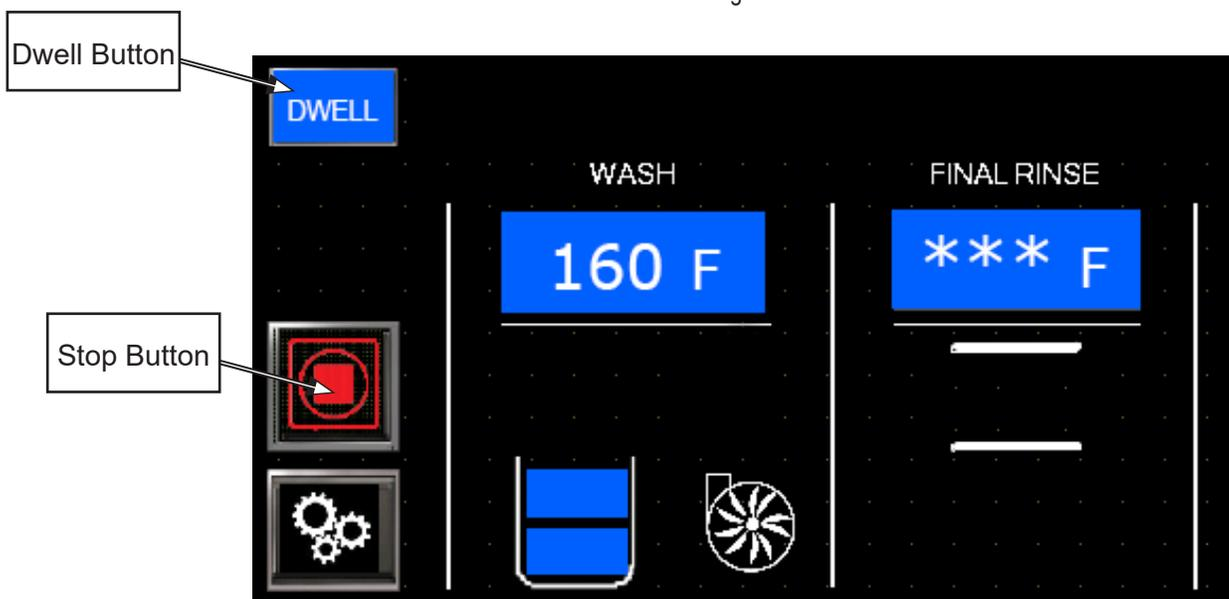

Fig. 18
- 2** Press the green start button. It changes to a red stop button and the DWELL button appears, Fig.18.
- 3** Insert rack into machine. The status bar disappears and a Pump icon appears, Fig.18. The pump and conveyor will run for 90 seconds unless another rack is inserted into the machine.